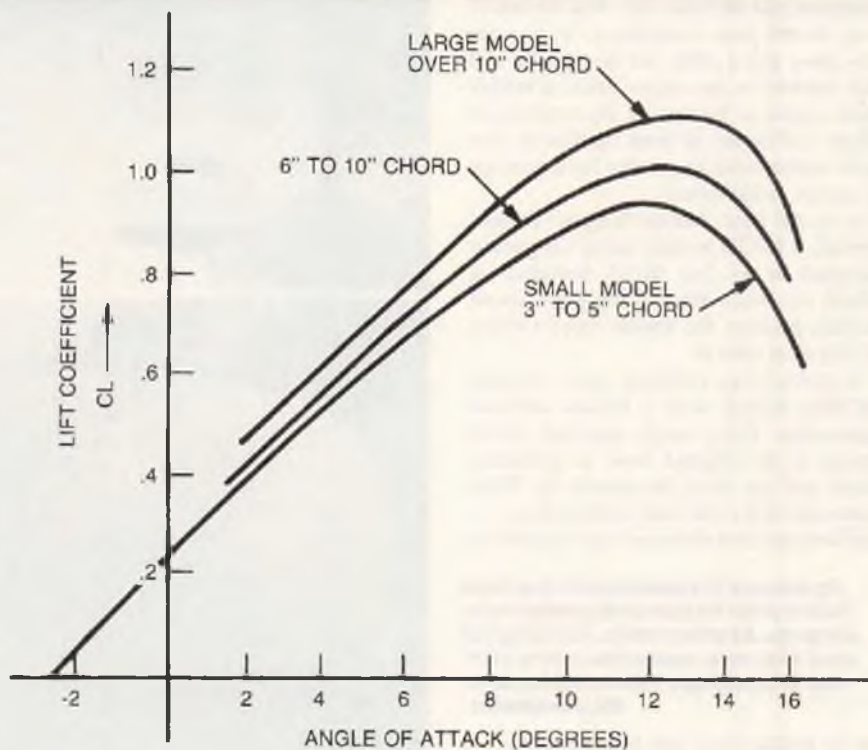

FIGURE 1
Most of you will have seen the airfoil graphs featured from time to time in RCM which plot airfoil "lift coefficient" (CL) against angle of attack for various airfoil sections. A graph for Clark Y is shown in Figure 1.